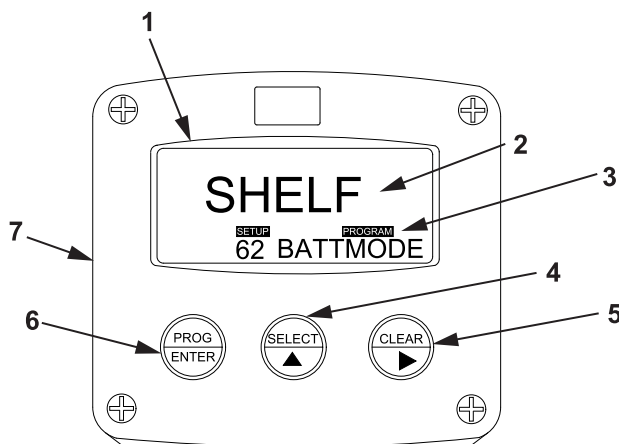

Figure 45. PROGRAM Display.
1. Press the PROG/ENTER key (Figure 45, Item 6) on the tank volume meter monitor (Figure 45, Item 7).
2. Verify that PROGRAM (Figure 45, Item 3) flashes on the display screen (Figure 45, Item 1).
3. Use either the SELECT key (Figure 45, Item 4) or the CLEAR key (Figure 45, Item 5) to toggle to the desired setting (Figure 45, Item 2).
4. Press the PROG/ENTER key (Figure 45, Item 6) to select and save desired setting (Figure 45, Item 2).